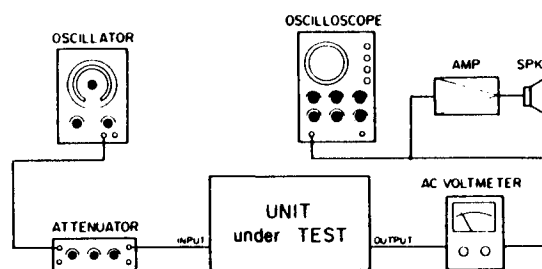

FIG. 28. SET-UP FOR LEVEL & FREQUENCY RESPONSE CHECKS
1. Connect test equipment to the channel 1 input and output jacks of the deck as shown in Fig. 28.